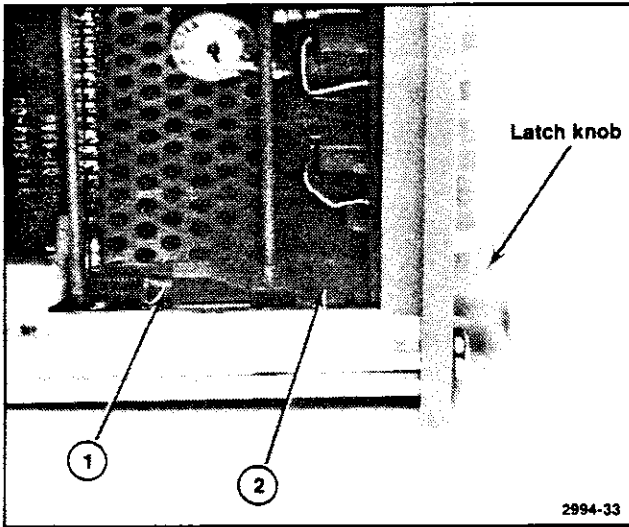

Fig. 7-3. Latch disassembly.
To remove the Front Panel and Front Panel Driver board assembly, first remove the instrument side covers and back plate. Remove the front panel screw between the input connectors and remove the ADC board. Refer to Fig. 7-3. It is necessary to disengage the latch before removing the front panel boards. To disengage the latch, use a small screwdriver to push forward slightly on the rear latch (1) just in front of the spring. Press down on the latch knob to raise the latch knob extension at the point where the two latch pieces engage. While holding the latch knob down, push up on the front panel latch piece at the point of engagement (2) to disengage the two pieces. Then, pull the latch knob out.